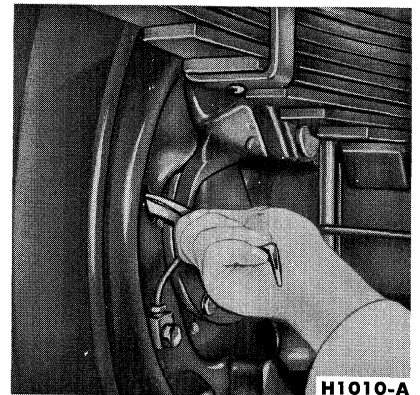

FIG. 6—Two-Cylinder Brake Shoe Adjustment
1. Remove the adjusting slot covers from the carrier plate (Fig. 6).